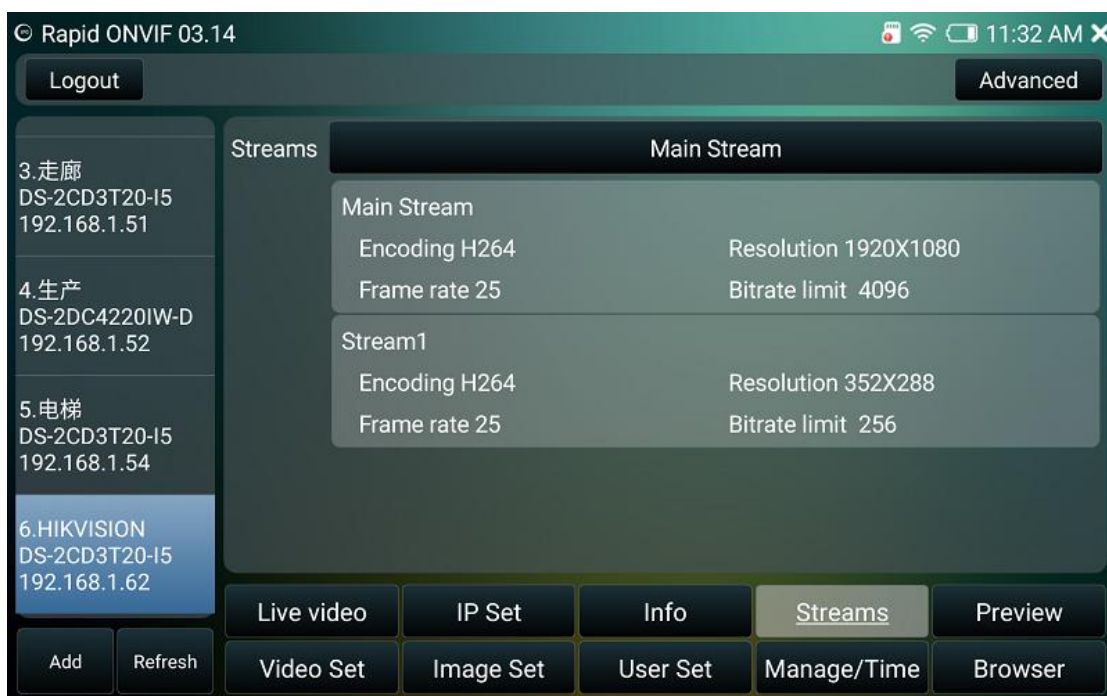

Figure 27
7) Stream selection, touch the ‘Streams’ button to view the current stream configuration file, you can switch between main stream and auxiliary stream, as shown in Figure 27